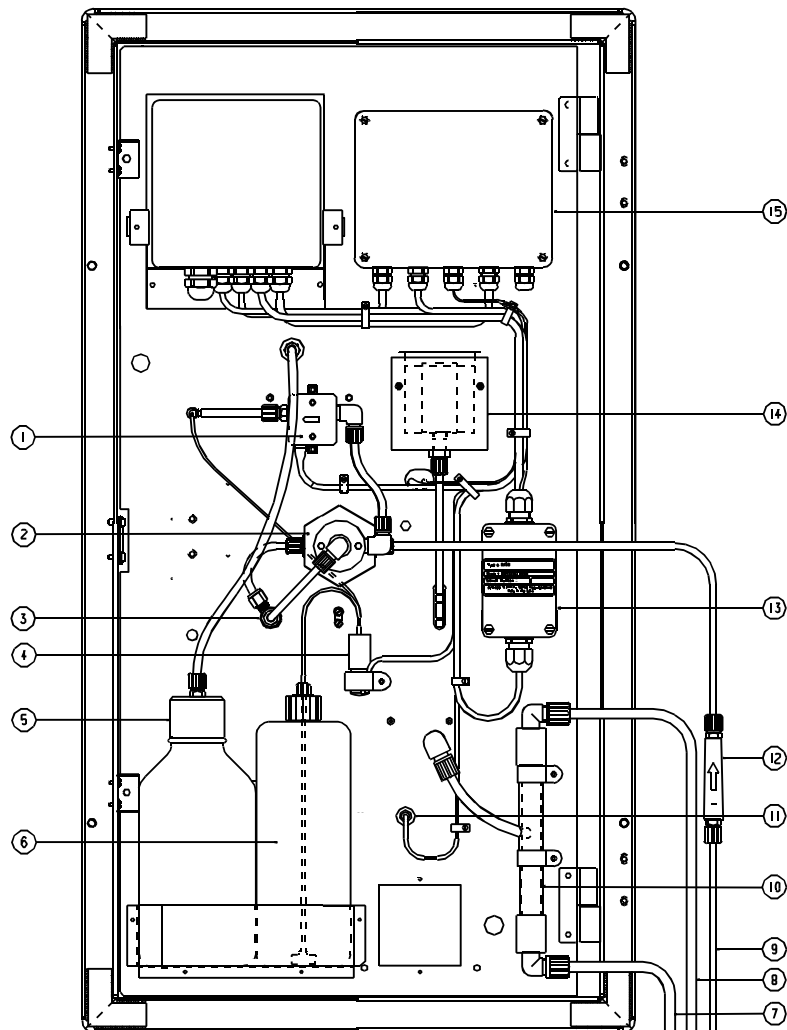

Figure 2-4 :
3.5.1 CARCAL version (see figure 2-4)